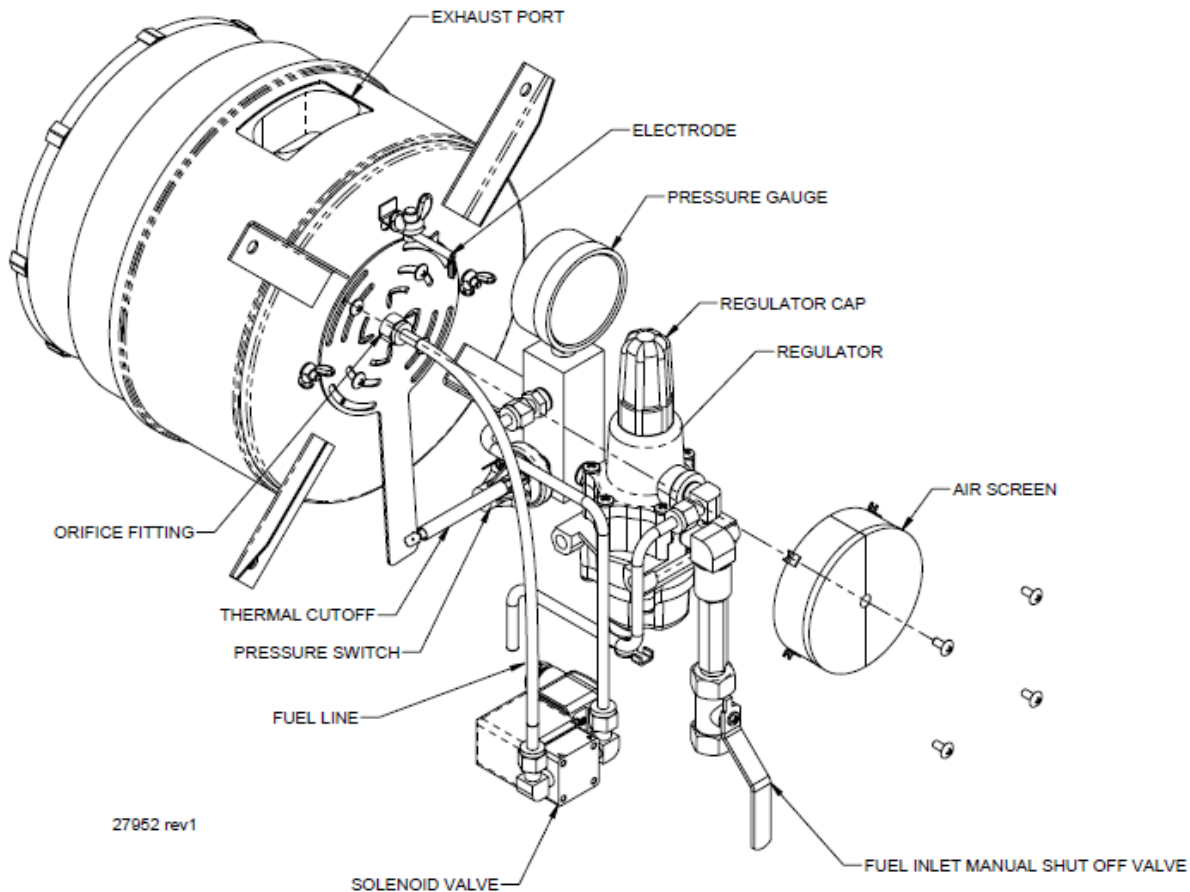

Figure 3 – 5220 Fuel System General Assembly
The solenoid valve is controlled by the Spark Ignition (SI) module. The SI module opens the solenoid valve when the fuel pressure switch is closed (fuel pressure is present) and closes the solenoid valve when fuel pressure switch is open (no fuel pressure), or if the SI module does not sense a flame in the burner. The main parts of fuel system are shown in Figure 3.